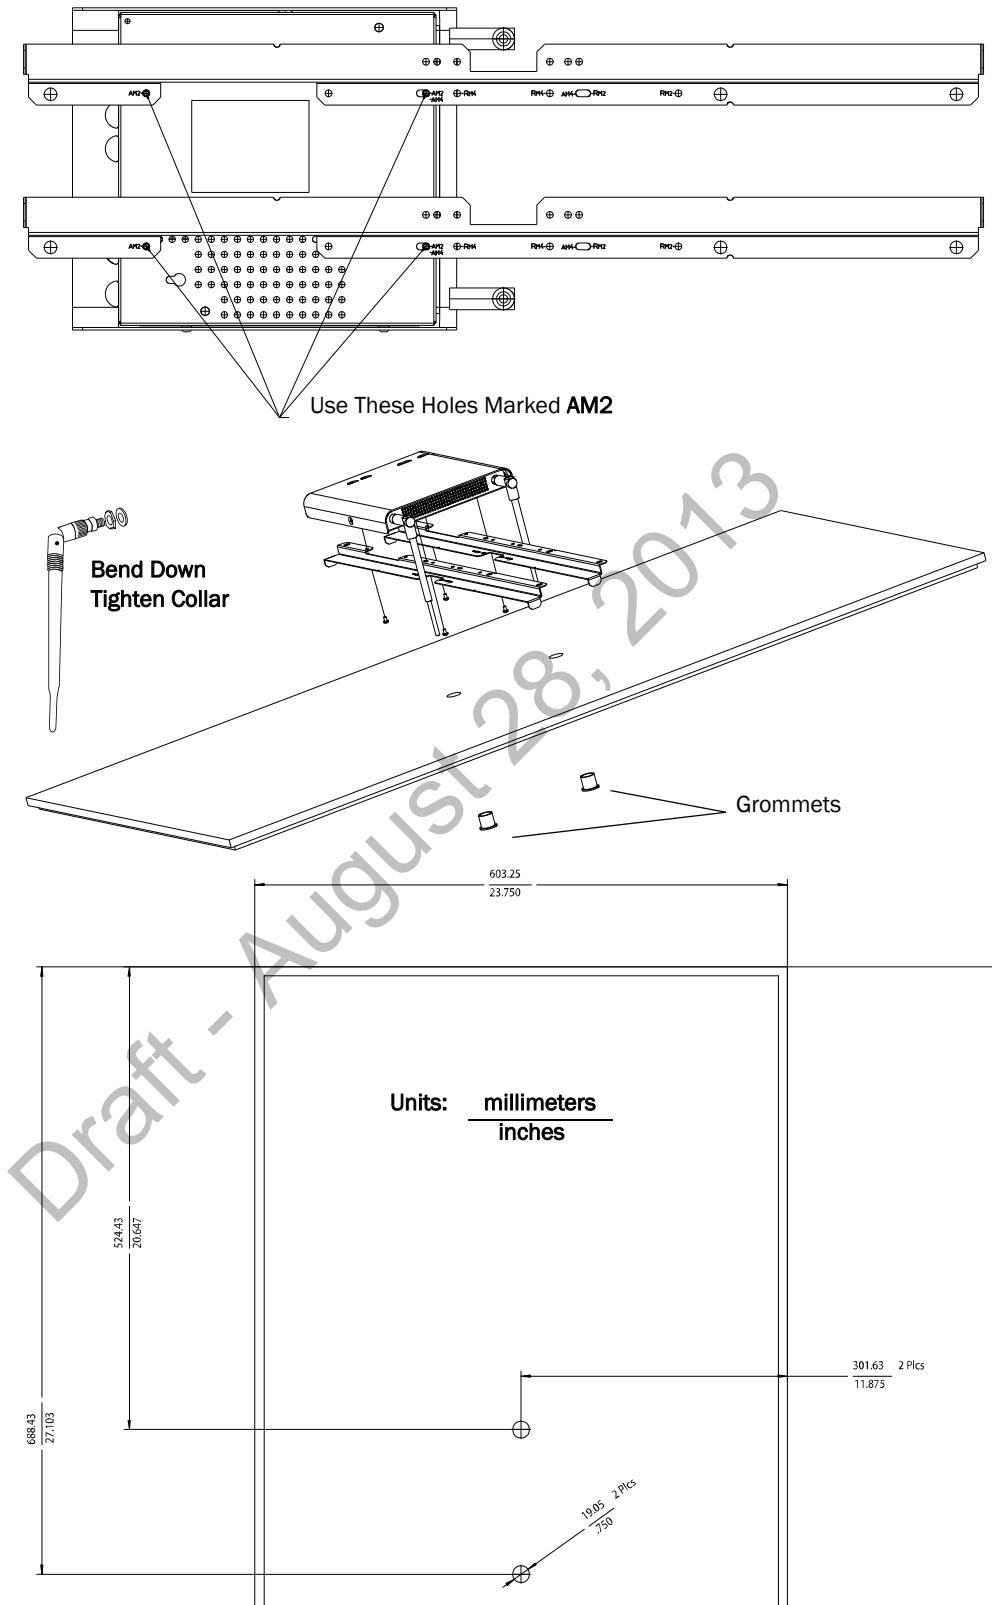
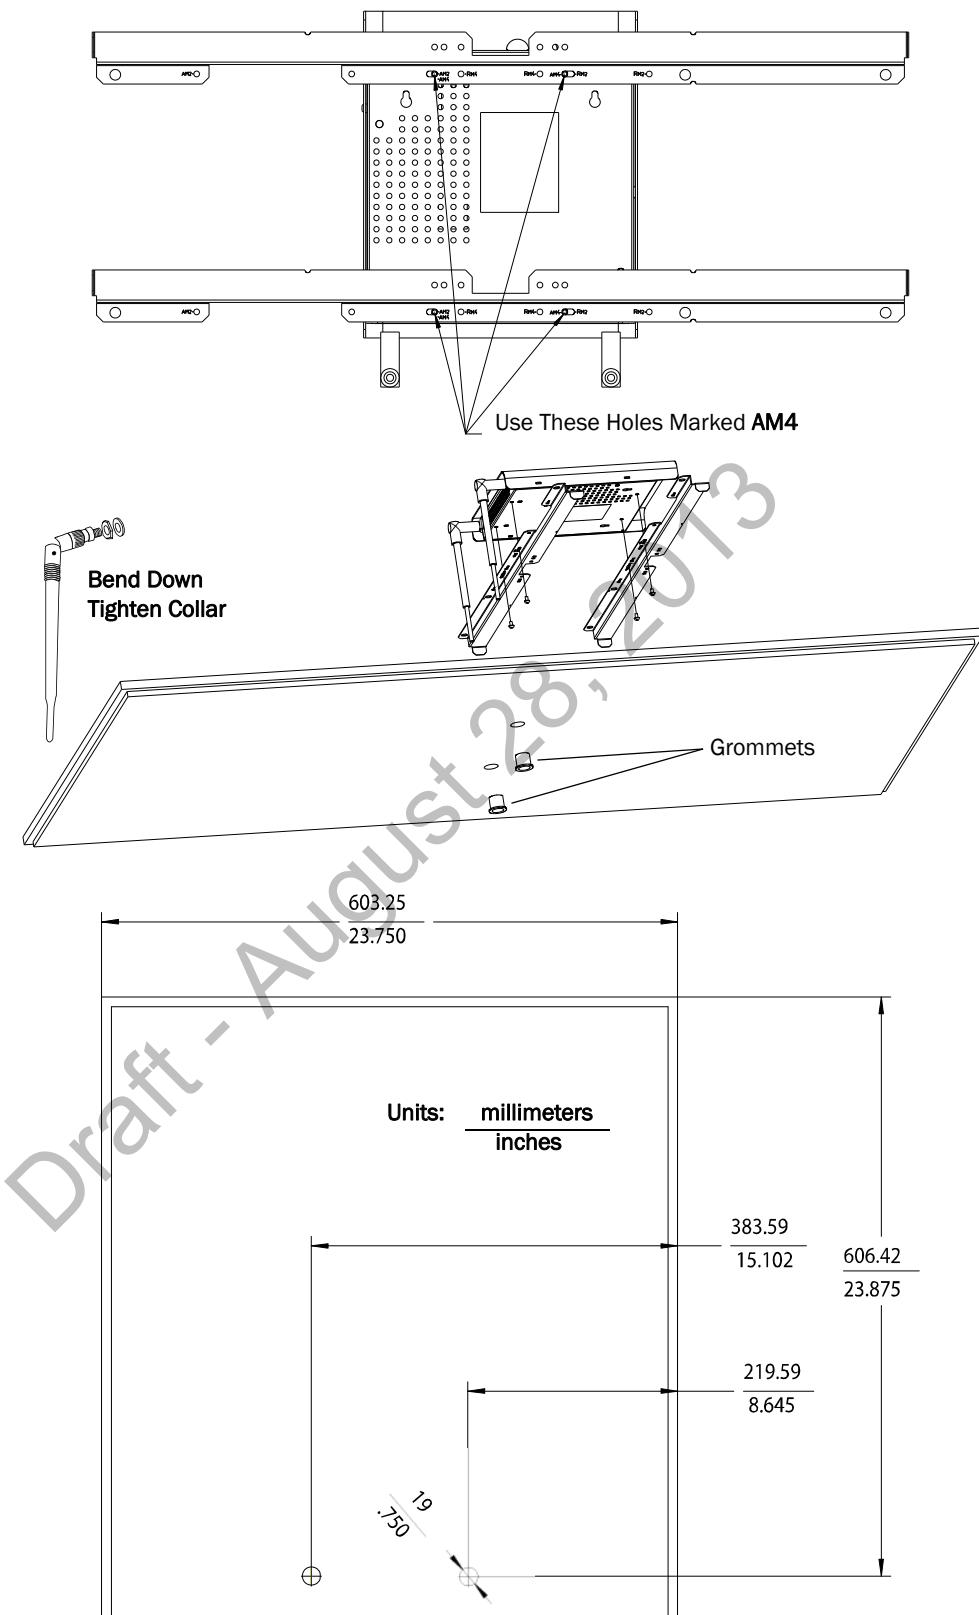

Figure 2-6: Possible Above the Ceiling Core AP Mounting Position
Figure 2-7: Alternative Above the Ceiling Core AP Mounting Position
The Core AP chassis can be rotated 90 degrees to the mounting rails. Choose the best placement of the Core AP to facilitate where the antennas will go through the ceiling tile. Note that there are additional holes in the mounting rails to allow for tethering to other permanent structures where local building codes require this type of installation. Refer to Figure 2-6 or Figure 2-7 for the dimensions used to locate the antenna holes in the tile.
6. Secure the mounting rails to the AP. Insert the four (4) M3 x 0.5 (8 mm LG) screws into the Core AP mounting rail holes, and into the mating holes in the back of the Core AP as shown in Figure 2-6 or Figure 2-7. Torque-tighten each shoulder screw to 8-inch lbs.